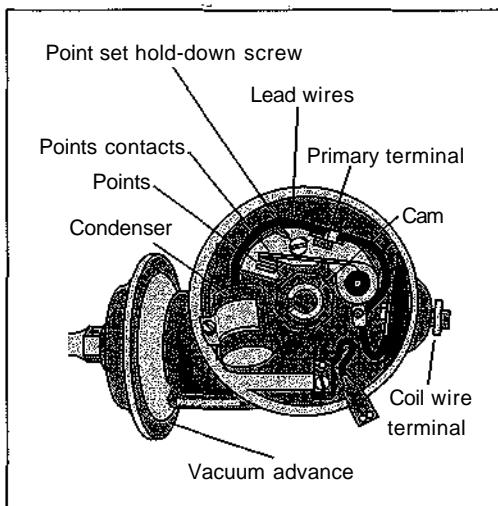

Figure 5-15:
- ① The following parts are attached to a breaker plate on the floor of a *non-electronic distributor*, as shown in Figure 5-15.